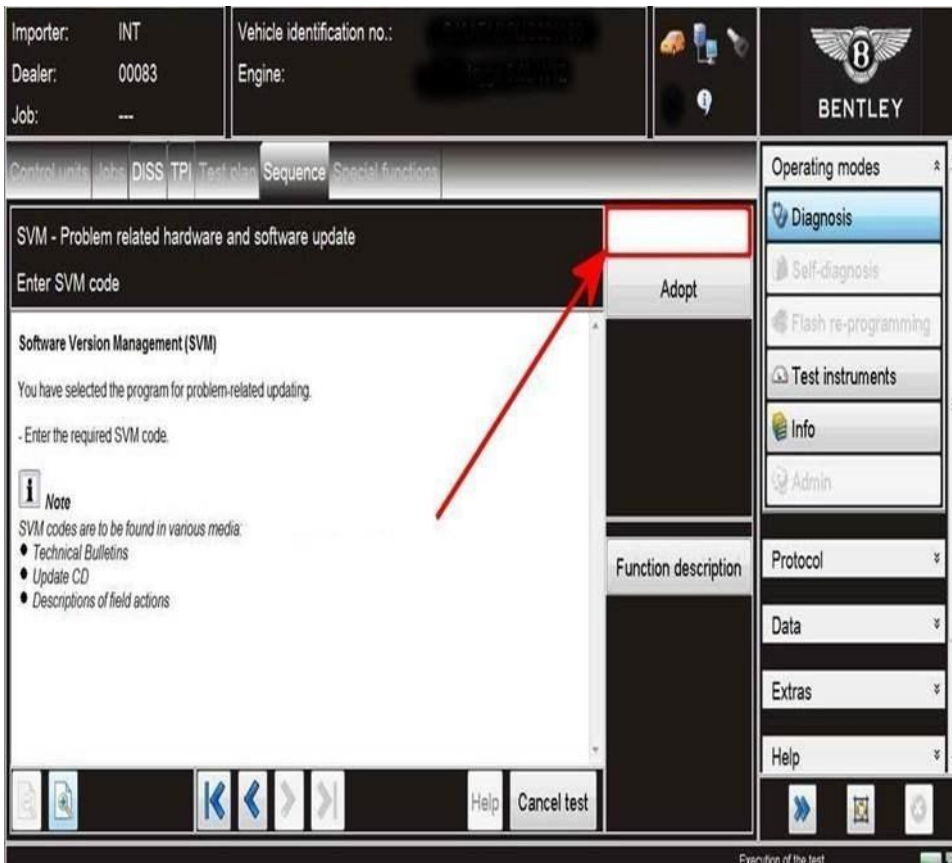

Figure 2
2) On the next screen enter SVM code 37102GB01 (Figure 2)